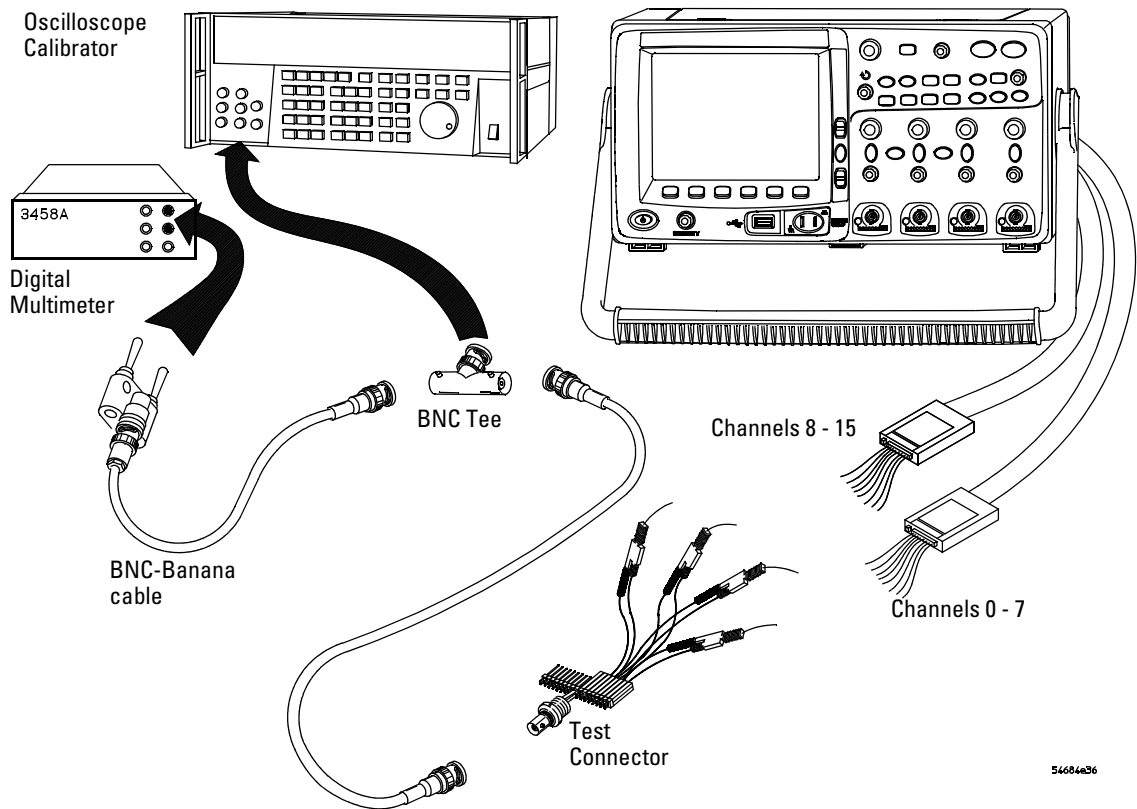

Figure 2 Setting Up Equipment and Test Connector for the Threshold Test
- 3 Use the 8-by-2 test connector and the BNC cable assembly to connect digital channels D0-D7 to one side of the BNC Tee. Then connect the D0-D7 ground lead to the ground side of the 8-by-2 connector. See Figure 2.
- 5 Connect the BNC Tee to the Channel 1 output of the calibrator as shown in Figure 2.